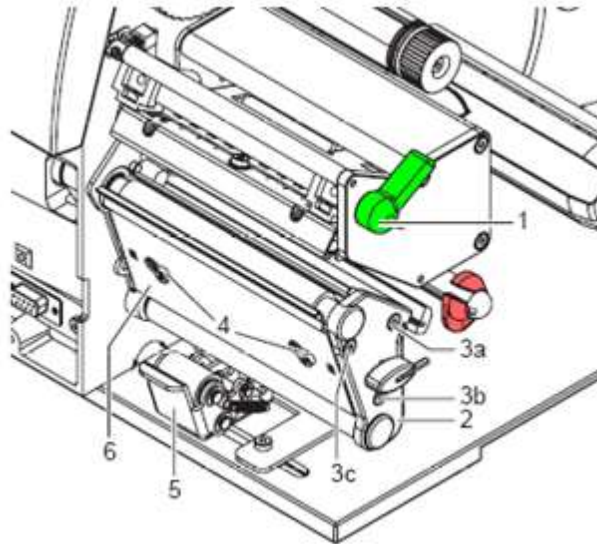

Figure 24
1. Pull the print roller (7) and rewind the assist roller (8) from the shafts (9, 10) on the housing.
3. Slide the print roller (7) and rewind the assist roller (8) onto their respective shafts and turn slightly until the hexagon of the shaft engages in the hexagon socket of the print roller.
4. Set the side plate (2, Figure 24) in place and screw it down with the the screws (3a, b, c, Figure 24) by tightening all the screws in order a-b-c.
5. Set the plate (6, Figure 24) in place and tighten screws (4, Figure 24) with a hexagonal wrench.